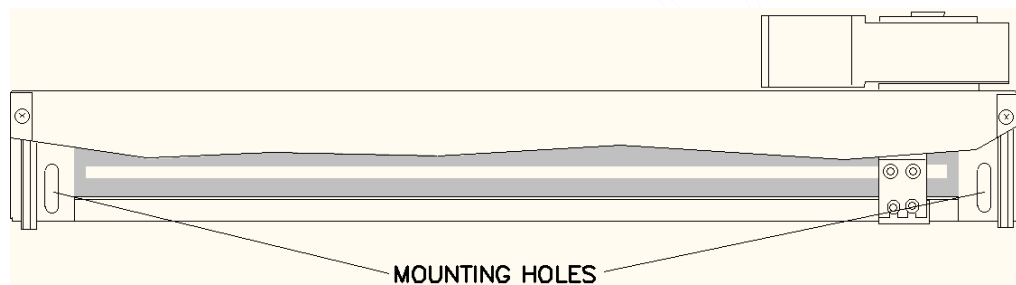

Figure 8 - Mounting Hole Locations (top view)
8. Check that the .25 inch clearance of the Gate Operator to the Front edge of the Car top then secure the Operator in place with appropriate hardware using the slots provided on the left and right sides of the Operator. See Figure 8 - Mounting Hole Locations (top view)